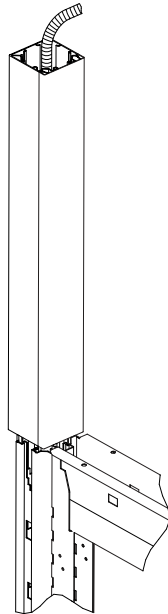

Fig. 8
10. Install power pole trim sections (Fig. 8).